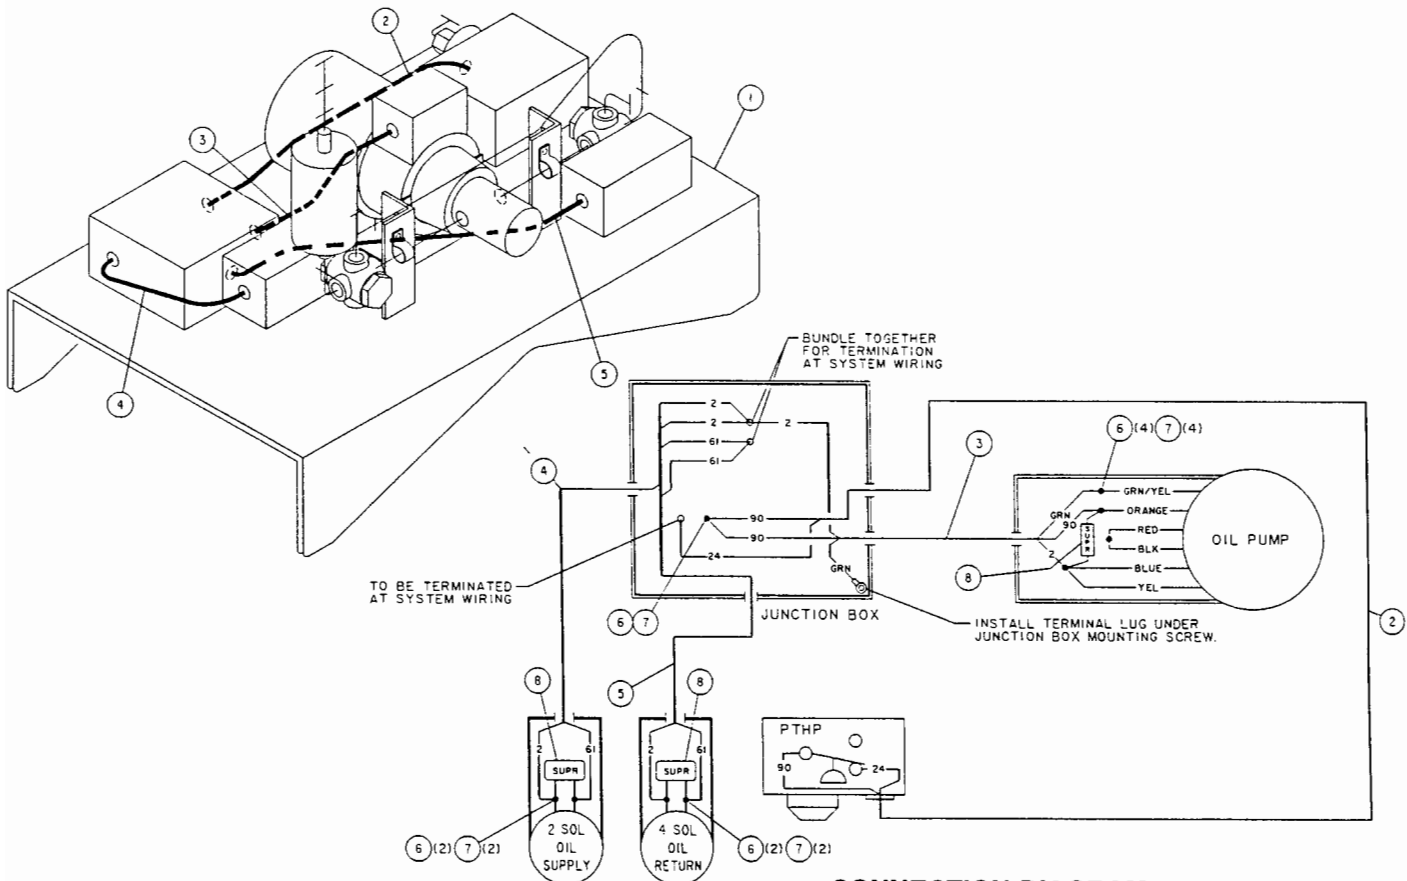

FIG. 3 – PUMP SUB-ASSEMBLY WIRING
5. Run 16 gauge stranded wire from terminal block 24 in control panel through conduit to main junction box mounted on chiller for boost pump power supply. (See Fig. 3.)